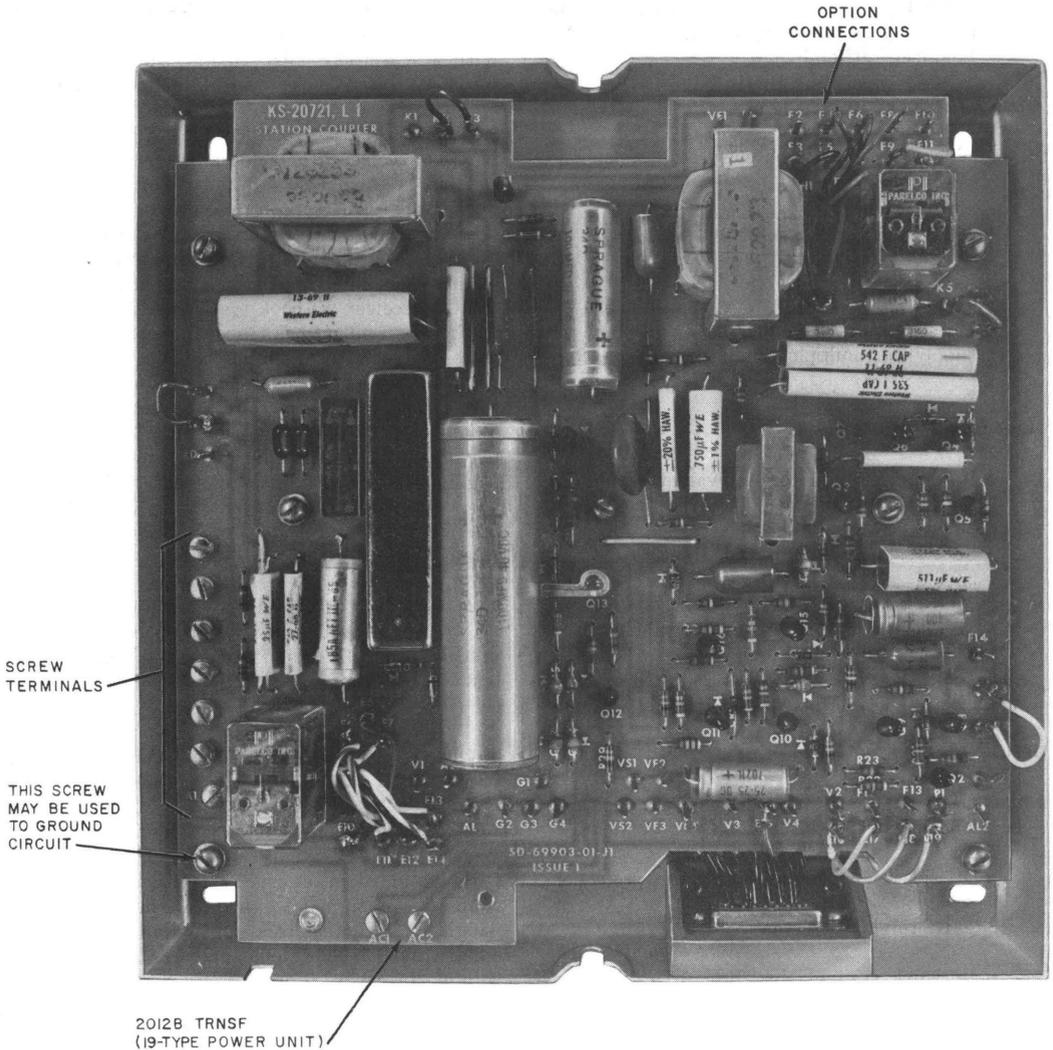

Fig. 2—KS-20721, List 1 Station Coupler, Cover Removed
2.02 The KS-20721, List 1 station coupler (Fig. 2) is the basic unit designed to be field equipped with a KS-20721, List 10 hinge assembly for mounting the optional circuit pack. The circuit pack is equipped with quick connect connectors for easy installation.
path and control leads to the CPE by means of a CP cable equipped with an ITT-Cannon Electric or Cinch Mfg. Co. No. DA-19603-403 plug with Hood No. DA-51225-1. Screw terminals on the left side of the printed circuit board (Fig. 2) provide connections to the CO line, telephone set, and 2012B power transformer (or power supply). Flexible